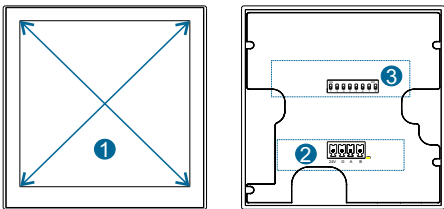
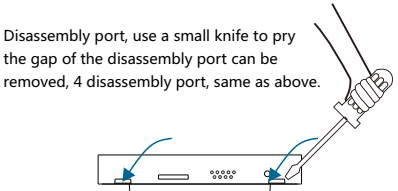

Figure 6. Product Information
Figure 8. Disassembly port
Product Information: See Figure 6
3. Setting address: The factory address is 01, address setting is 01-63 (decimal), using a 6-bit dip dial, binary Dip mode, setting mode (see Figure 6), note: the back cover needs to be removed when dialing, see Figure 8.